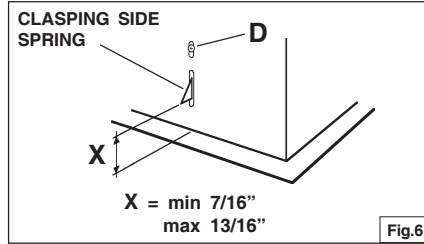

Fig.6
3. Adjust the position of the clamping side spring by turning the "D" screw according to the thickness of the cabinet to which it is going to be anchored (Fig.6).